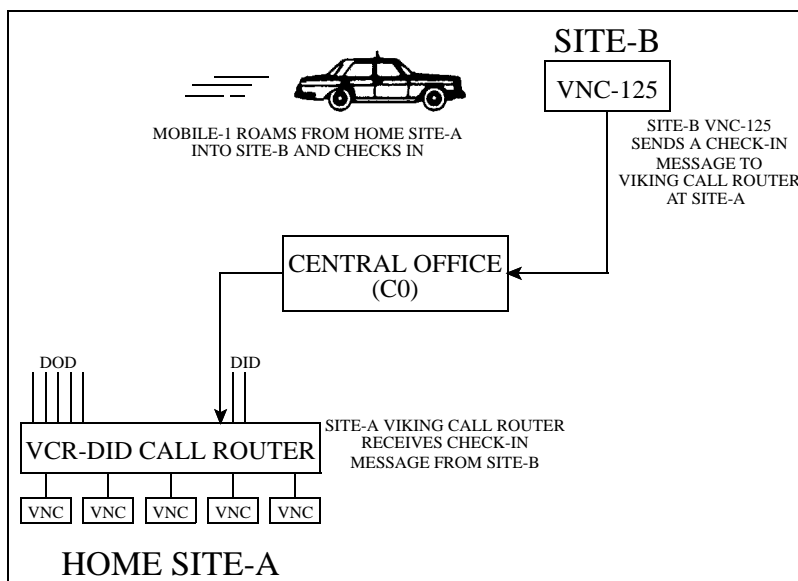

Figure 6-21 ROAMER CHECK-IN TO SITE-B
1. The customer (Mobile-1) "checks in" when arriving into the new service area (Site-B). To check into the VNC-125, the customer simply accesses the system and enters a DTMF "*" (star). At the completion of the call, the message "Welcome, check-in accepted" is spoken, informing the customer that he has checked into the new calling area (see Figure 6-21).